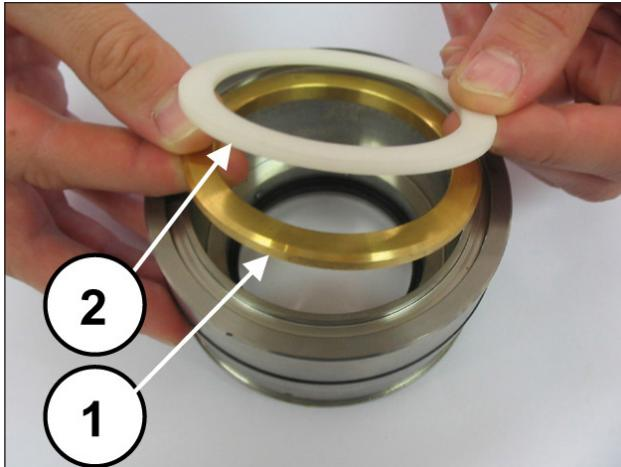
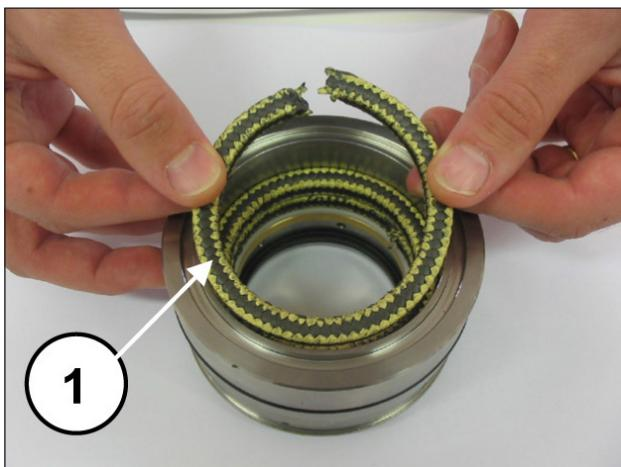
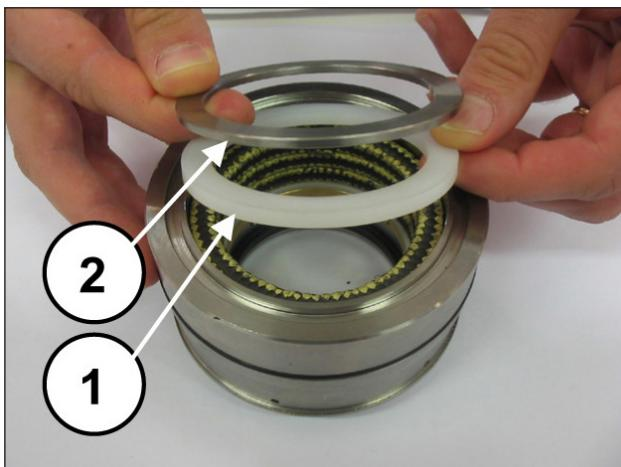

Fig. 197
Fig. 198
Fig. 199
Install the support ring and the back-up ring (pos. ①②, Fig. 197), the three KC sealing rings, making sure the notches are at 120° from each other (pos. ①, Fig. 198), the KC seals scraper ring and the spring ring (pos. ①②, Fig. 199).